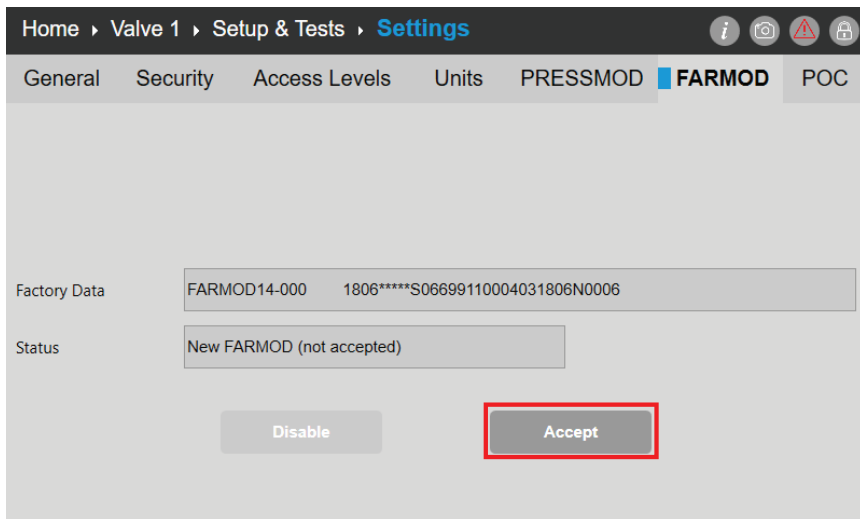
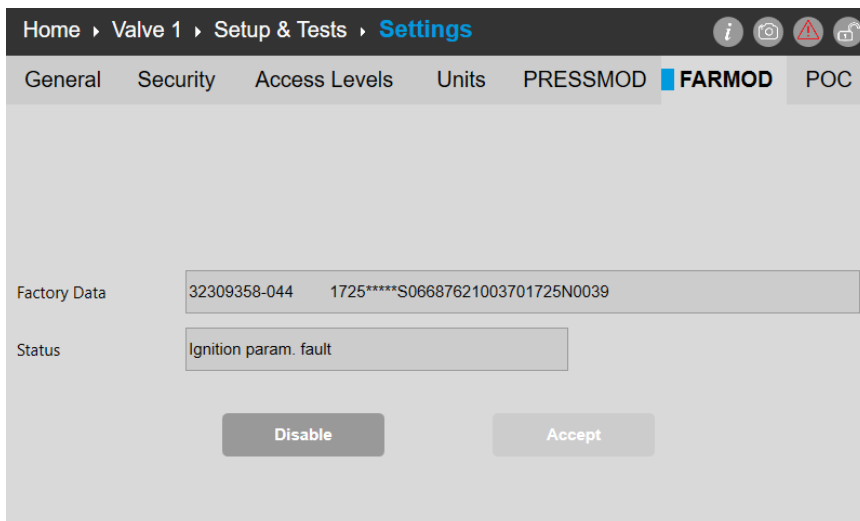
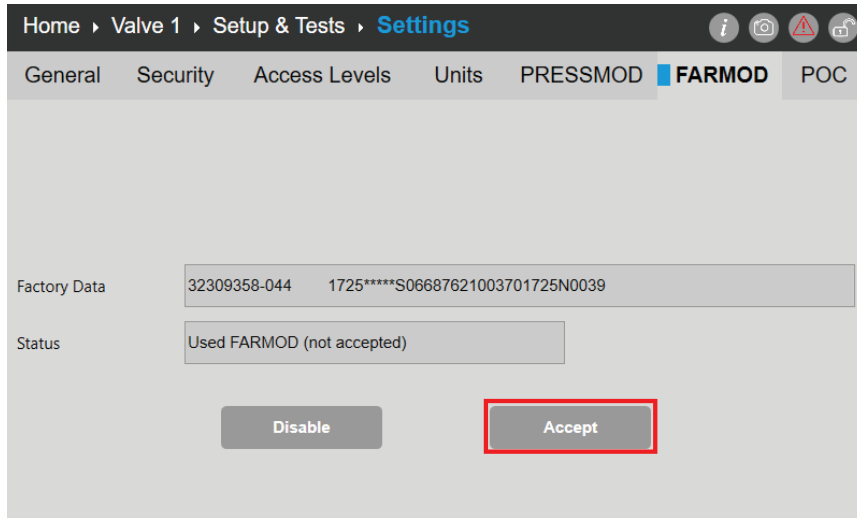

Fig. 126: FARMOD tab, FARMOD not accepted.
Fig. 127: FARMOD tab, FARMOD accepted.
Fig. 132: FARMOD tab, FARMOD not accepted.
- **FARMOD. The replacement FARMOD must be Accepted. Refer to Fig. 126 and Fig. 132.**
4. Go to the FARMOD tab and Accept the newly attached FARMOD by pressing the Accept button. Refer to Fig. 126-Fig. 127.